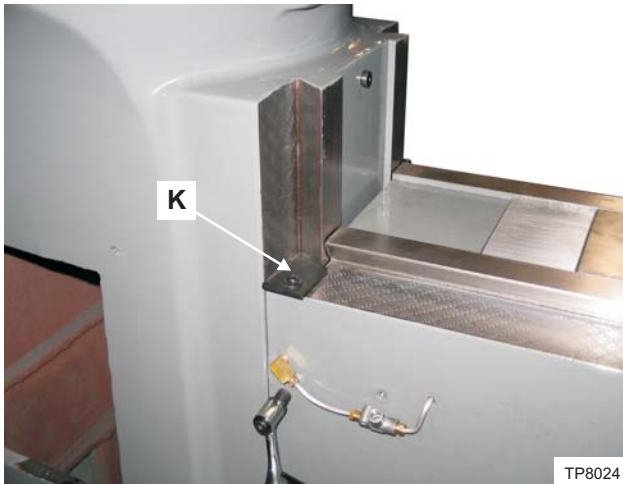
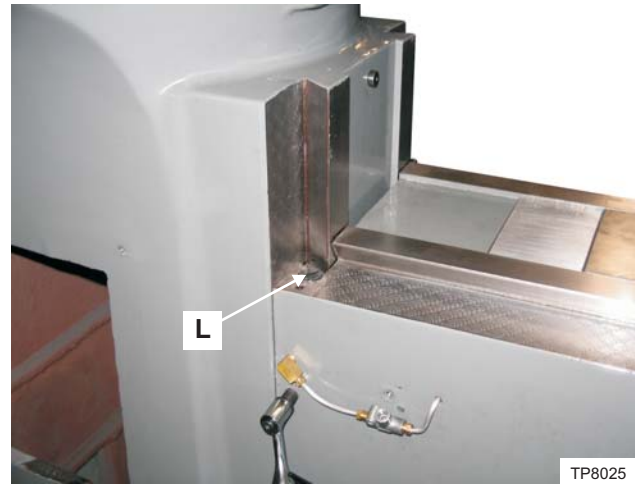

Figure 3.16 - Left Knee Wiper
Figure 3.17 - Upper Knee
3. Remove wiper "K", Figure 3.16, to gain access to upper gib adjustment screw "L", Figure 3.17.